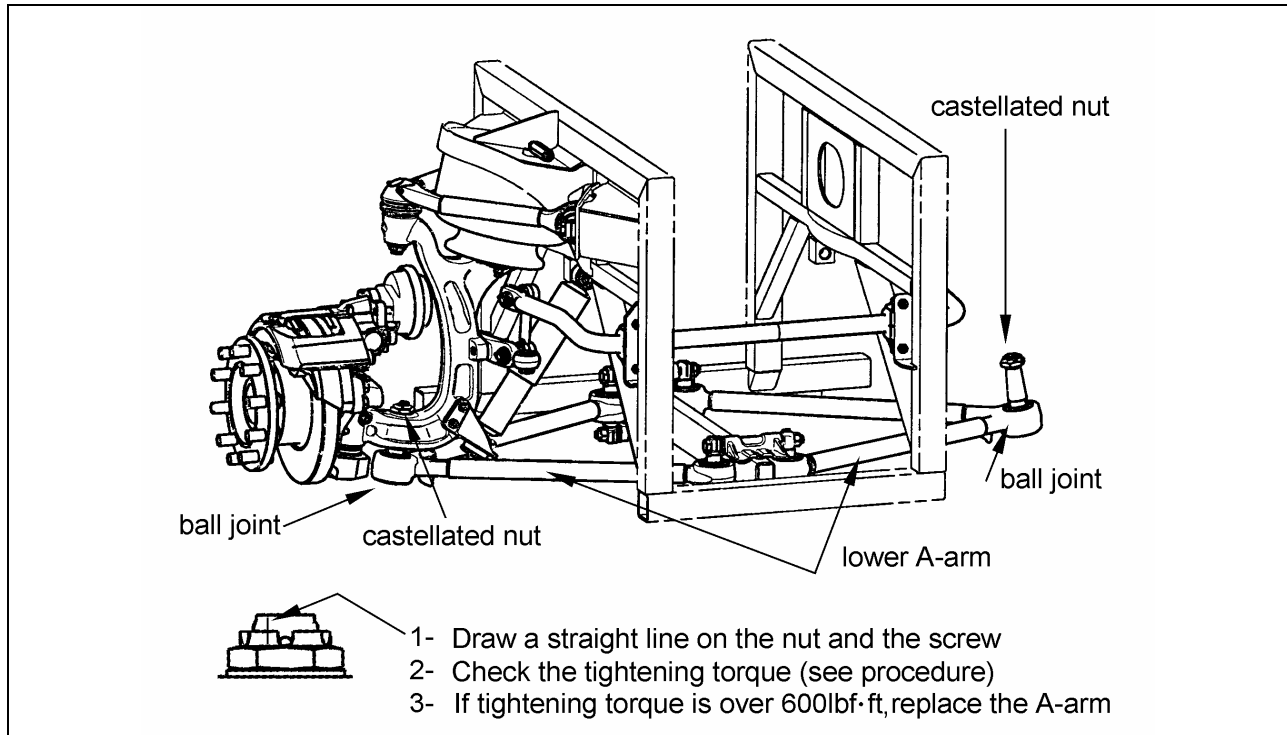

FIGURE 1
2. Locate the castellated nut (see figure 1). Remove the cotter pin.
3. As a reference mark, draw a straight line on the nut and the screw (figure 1). This mark will indicate if the nut has turned during the test.